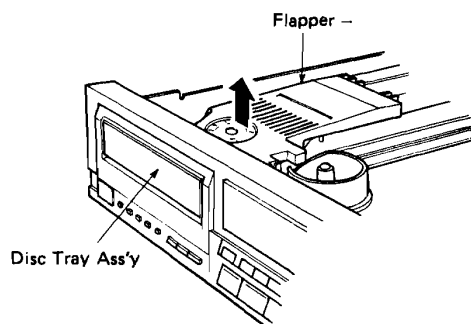

Fig. 2
- Lift the flapper and pull out the disc tray ass'y in Fig. 2.